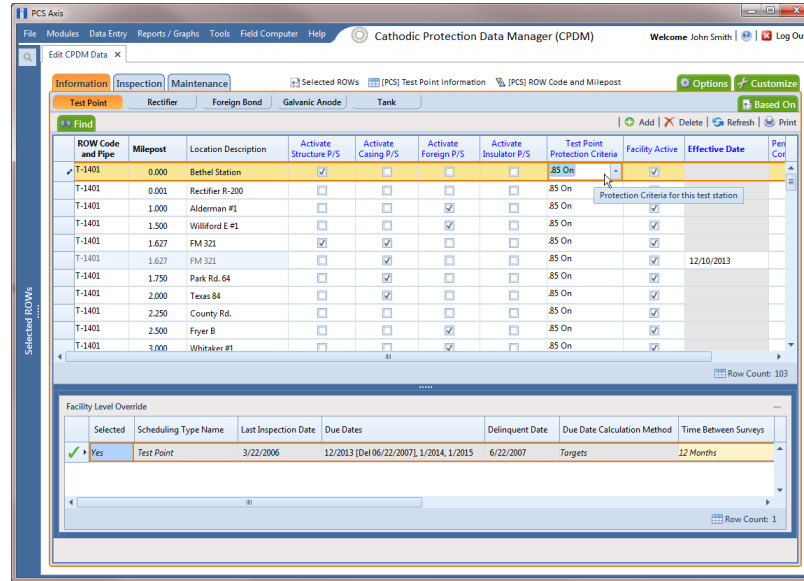

Figure 7-141. Test Point Information Grid
- 3 Open the *Test Point Information* grid. Click the **Information** tab  and then the **Test Point** button  (Figure 7-141).